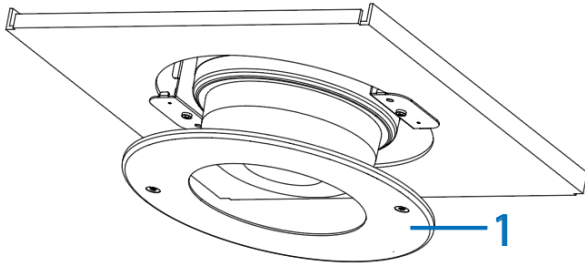

Figure 13
20. Align the trim ring plate (1) (Figure 13) captive screws with the recess mount bracket threaded holes and secure the trim ring to the recess mount assembly using a T20 Torx screwdriver.